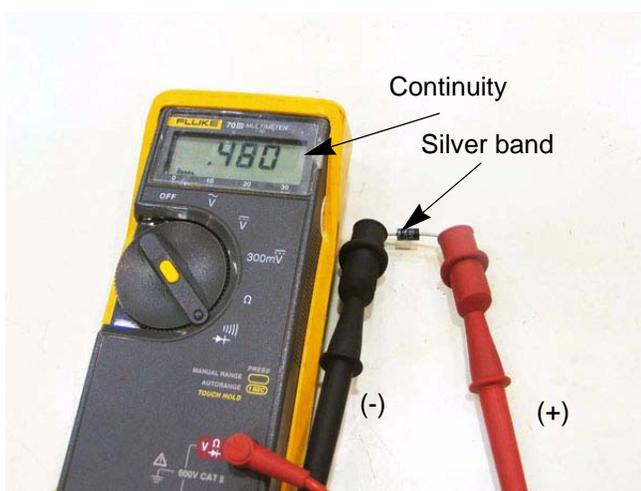

Figure 7.68
5. There should be continuity. See Figure 7.68.